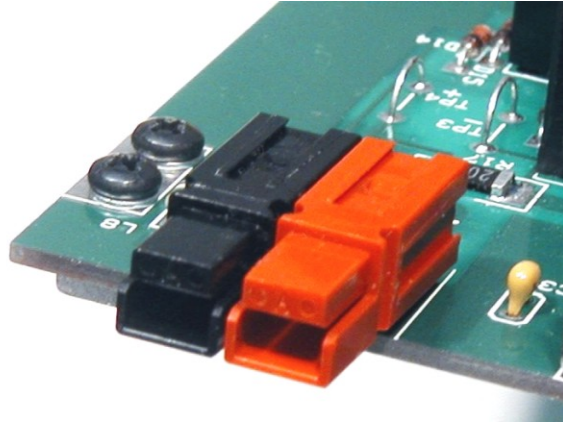

Figure 28. Orienting J7 on the RF Board.
- Orient the shells with dimpled side up so that the red and black shells are over the colors marked on the circuit board exactly as shown in Figure 28. **Be sure the shells are oriented as shown. If they are upside down they will not mate to the connectors on the power cord.**
- Bend the copper wire at right angles to the shells so that when it is placed in the holes on the circuit board, the shells lie against the board within their outline as shown in Figure 28. **Be sure the red shell is on the + side and the shells are oriented as shown.**